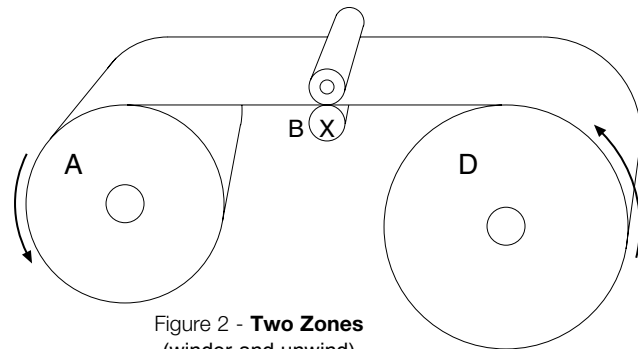

Figure 2 - **Two Zones**
**II.** More commonly, a machine will have driven nip rolls in the center, or processing section (see Fig. 2). A simple slitter/rewinder is an example. In this case, there are two separate tension zones to deal with and the tension levels may be different in each zone. Different tension levels are possible because the web is captured at the driven nip rolls, thus creating separate and distinct unwind and rewind zones. The driven nip rolls (B) will typically be powered by a motor drive that establishes machine line speed. Processing tension will be controlled by a brake system at the unwind (D), and a clutch or motor drive will control the winder tension (A). Again, the method of control will be dictated by the accuracy of tension control required in each zone. If process tension levels can vary by 10% or greater, a simple open loop brake control system may suffice. More accurate control would require a closed loop system, such as dancer or load cell feedback. Likewise, in the winder zone, open loop control may be sufficiently accurate, or closed loop or taper tension control may be required.